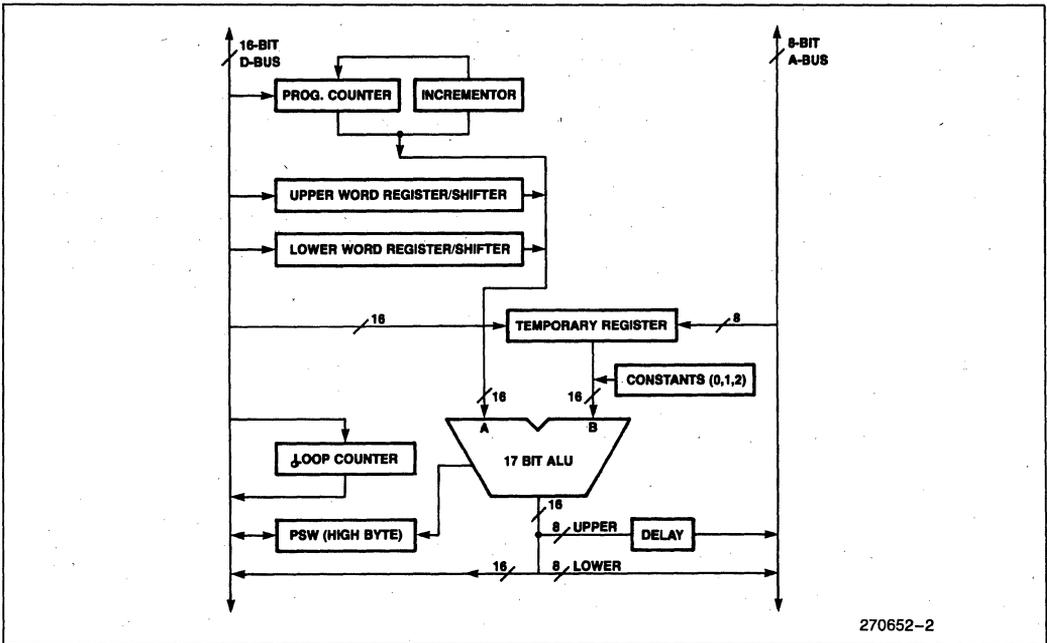

Figure 2. RALU Block Diagram
Most calculations performed by the 8098 take place in the RALU. The RALU, shown in Figure 2, contains a 17-bit ALU, the Program Status Word (PSW), the Program Counter (PC), a loop counter, and three temporary registers. All of the registers are 16 bits or 17 bits (16 plus sign extension) wide. Some of the registers have the ability to perform simple operations to off-load the ALU.
The DELAY shown in Figure 2 is used to convert the 16-bit bus into an 8-bit bus. This is required as all addresses and instructions are carried on the 8-bit A-Bus. Several constants, such as 0, 1 and 2 are stored in the RALU for use in speeding up certain calculations. These come in handy when the RALU needs to make a 2's complement number or perform an increment or decrement instruction.